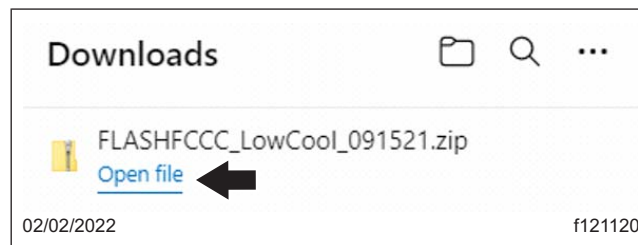

Fig. 4, Link to Open the Downloaded File
5. A download box will now appear on the upper right corner of the browser window. Once the download is complete, select 'Open File.' See Fig. 4.